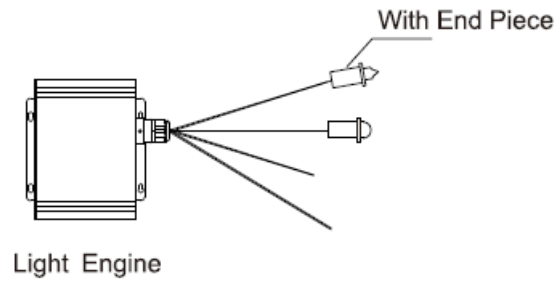

Fig.4
5. Signal cable and connector (See Fig.4):
2. End Lighting Fiber Optic. (See Fig.4).